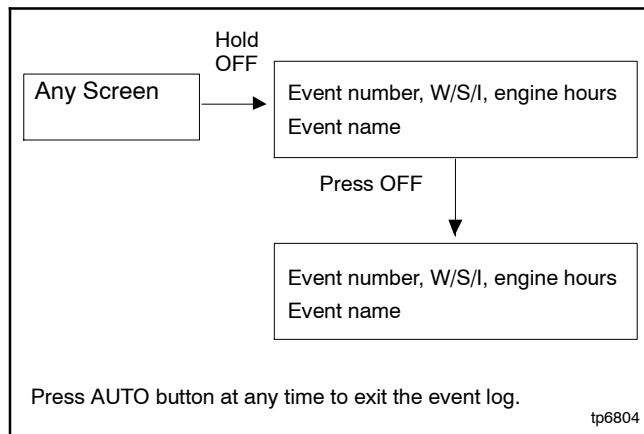

Figure 5-8 Event Log
The event log displays up to 10 controller faults and notices, starting with the most recent event. Events are numbered 1 - 10, with 1 being the most recent. Each event is displayed with the date and time of the event, the number of the event, a letter to indicate whether the event was a warning (W), shutdown (S), or informational notice (I), the engine hours at the time of the event, and the event description. See Figure 5-8.